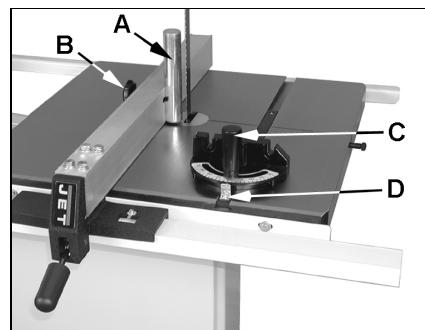

Fig 7
For resawing attach the post (A, Fig 7) to the fence with the lock knob (B). Position the post so that it is centered with the blade teeth.